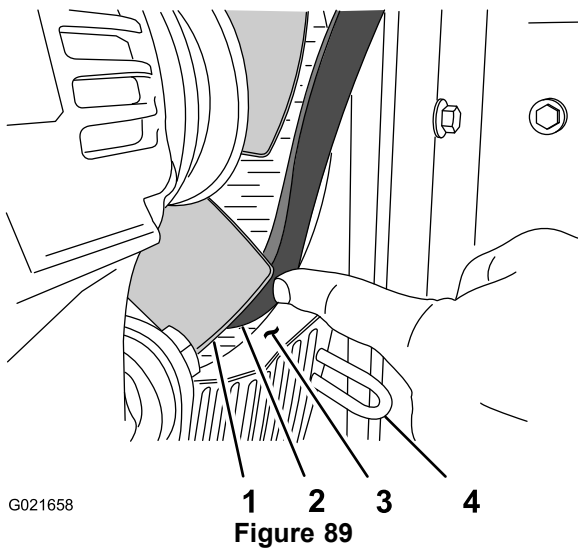

Figure 89
8. At the 4 o'clock position of the fan shroud, align the belt between the tip of the fan blade and the opening in the shroud (Figure 89).
1. Align the belt between 2 of the fan blades, and carefully push the belt forward and down until it is in front of the fan (Figure 89).
3. Align the belt between the tip of the fan blade and the opening in the shroud (Figure 89).